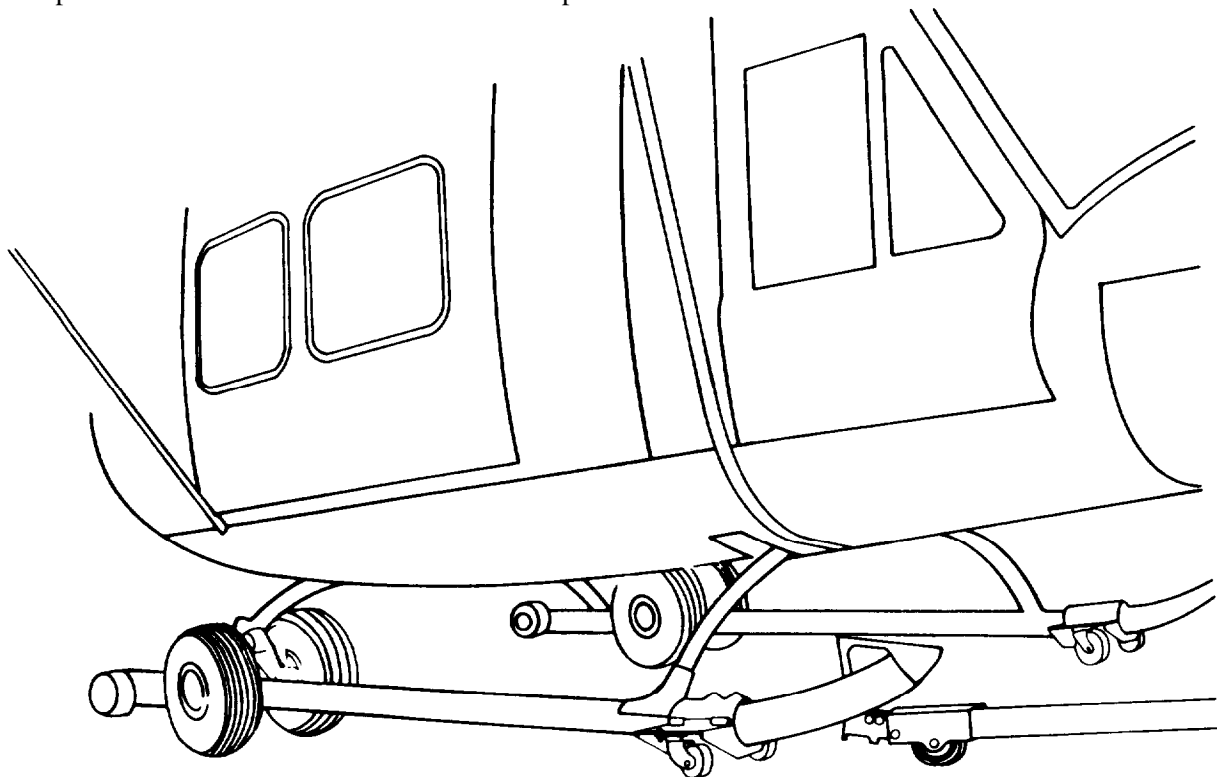
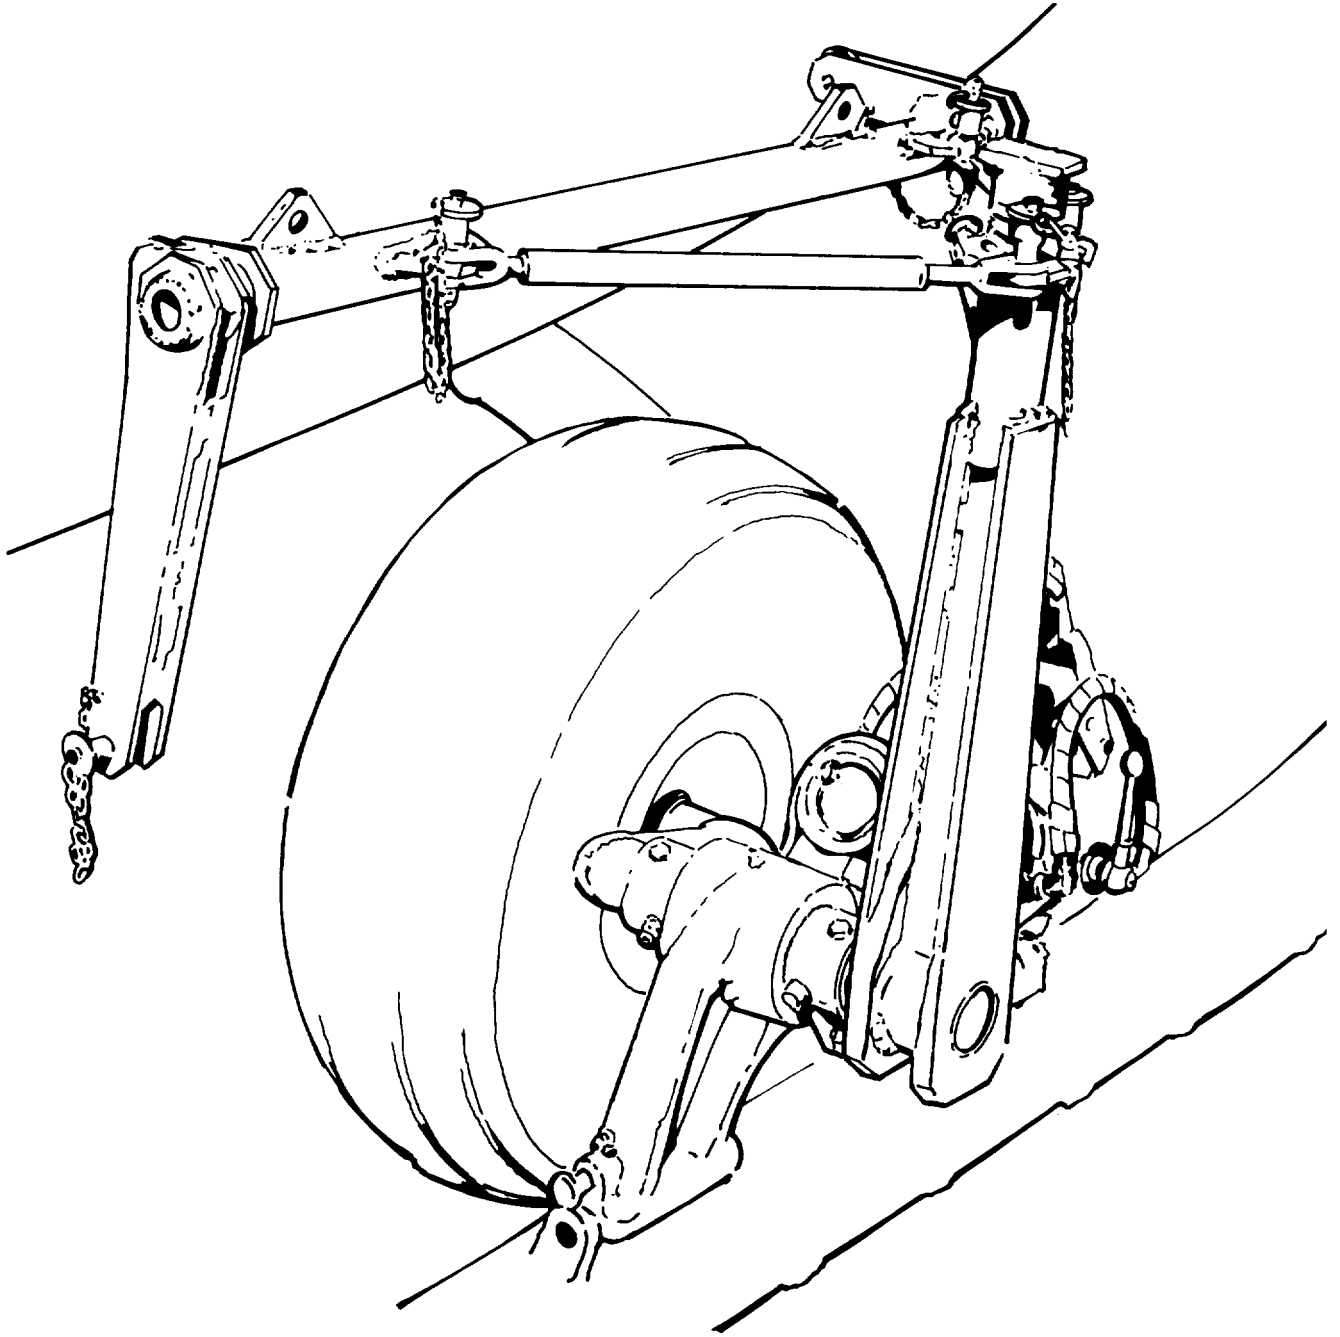

Figure 2-6. Application of Ground Handling and Dolly Wheels.
Figure 2-9. Modified Ground Handling Wheels.
Do not use modified ground handling wheels (figure 2-9) on EH-1X helicopters. The EH-1X exceeds the weight limitations for the single wheel.
- a. Install dolly wheels and ground handling wheels (figure 2-6) whenever it is necessary to move the helicopter short distances or to load with tailboom removed. These wheels are not used when the helicopter is secured to a 463L pallet.
(1) Install modified ground handling wheels (figure 2-9) and dolly wheels (figure 2-6)
(1) **If piggy-back kit is used install** modified ground handling and dolly wheels, (figure 2-6).
- d. Install modified ground handling wheels as shown by Figure 2-9 in TM 55-1520-242-S.